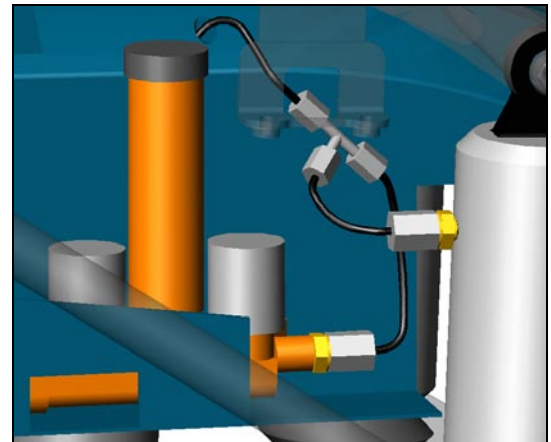

Figure 36
- c. Install tubing (approx. 4-5 inches long) between Tee branch and outer right shock absorber. Figure 36